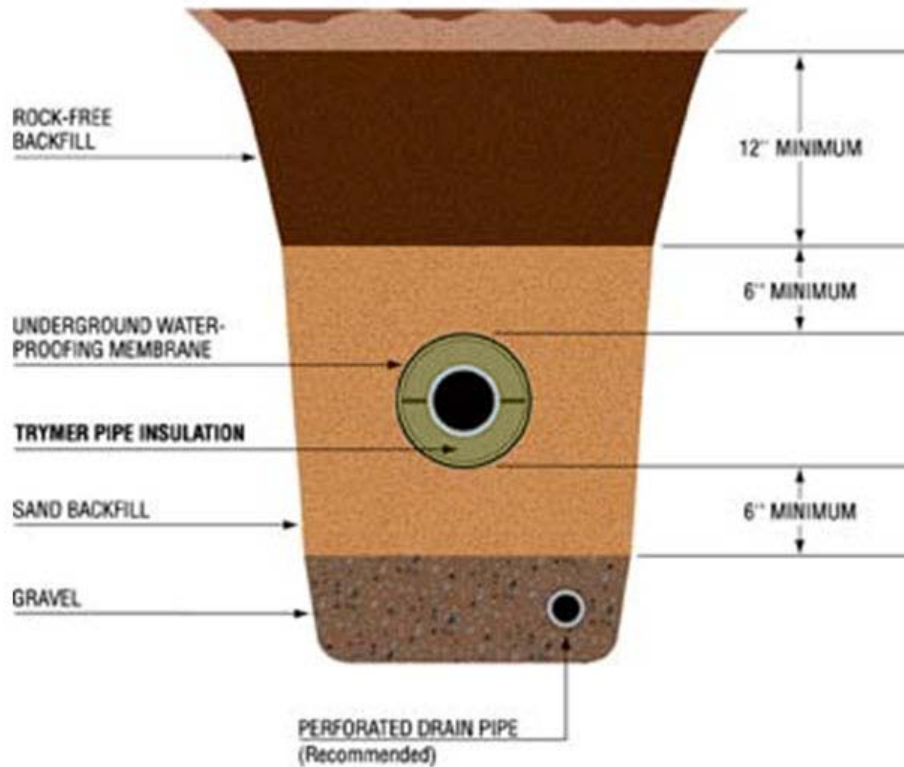

Figure 2
- 3.5.3.1 Underground jacketing shall be vapor retarder material with chemical resistance to ground water. Products to be used are Saran 560 as manufactured by ITW Insulation Systems or 50 mil self adhesive laminated membrane type vapor retarder product. For trench details refer to Figure 2 in Appendix B.